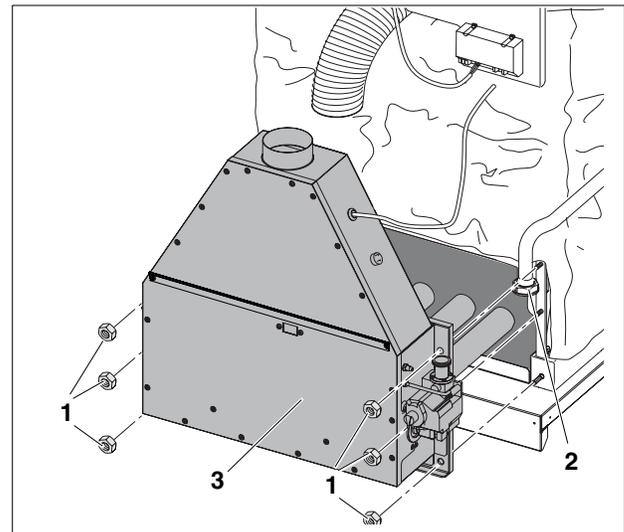

Fig. 33 Removal of the gas burner tray
10. Remove the nuts (Fig. 33, **Item. 1**) that secure the burner tray to the boiler and remove entire burner tray (Fig. 33, **Item. 3**).